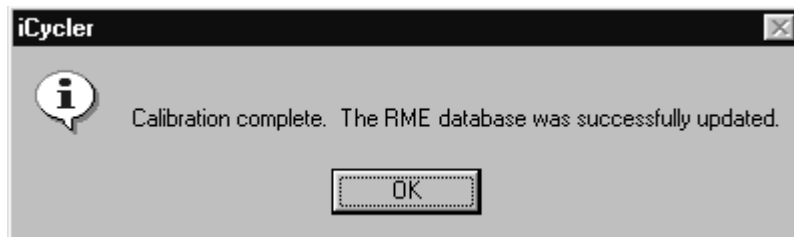

Fig. 2.10.
- The iCycler will then execute the pure dye calibration protocol and as soon as sufficient data are collected, the protocol will automatically terminate and you will be alerted. (Figure 2.10) Typically it only takes about four cycles to collect the necessary calibration data. The calibration results will be automatically written to the RME.ini file. You may discard the opd file.